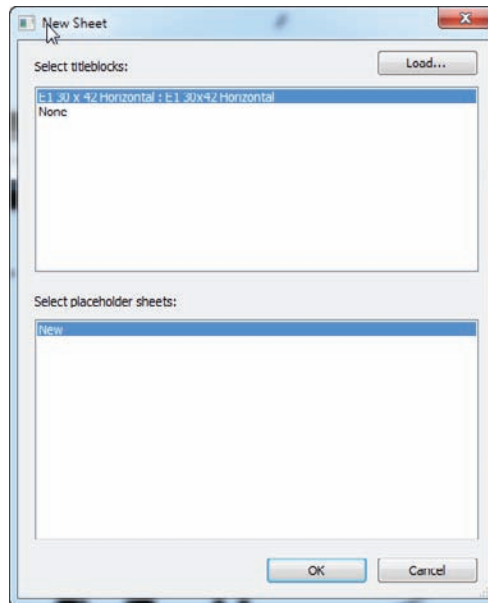

FIGURE 11.15 Using a sample title block
4. Select E1 30 × 42 Horizontal, as shown in Figure 11.15, and click OK.